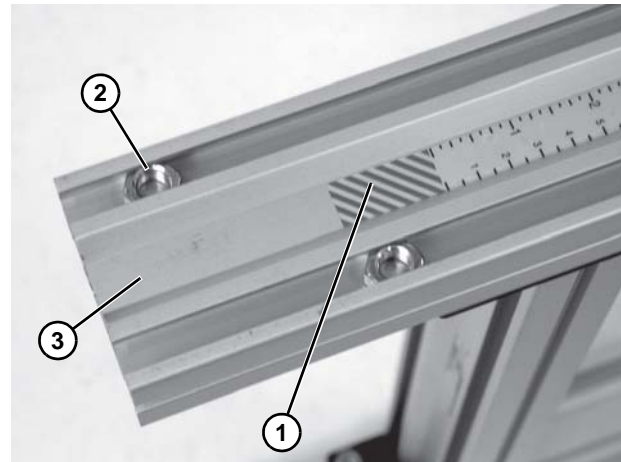

Figure 7
6. On the end with red warning area (**Figure 7, item 1**) install one (1) hex nut (**Figure 7, item 2**) into each outside stand leg (**Figure 7, item 3**) t-slot.